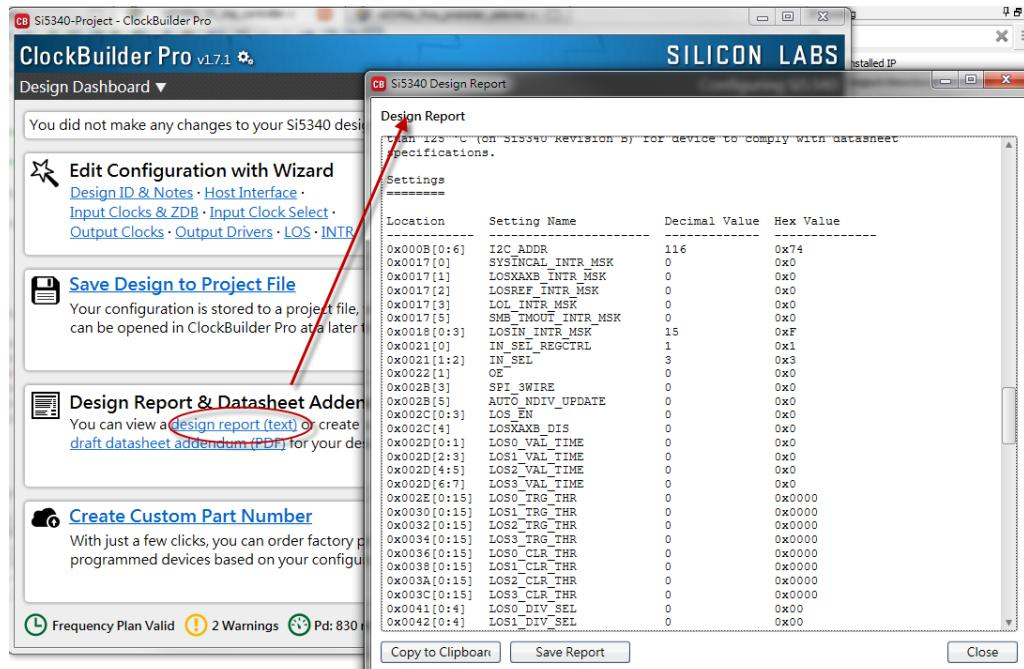

Figure 5-7 Open Design Report on ClockBuilder Pro Wizard
3. After the setting is completed, ClockBuider Pro Wizard generates a Design Report(text), which contains users setting frequency corresponding register value (See **Figure 5-7**).